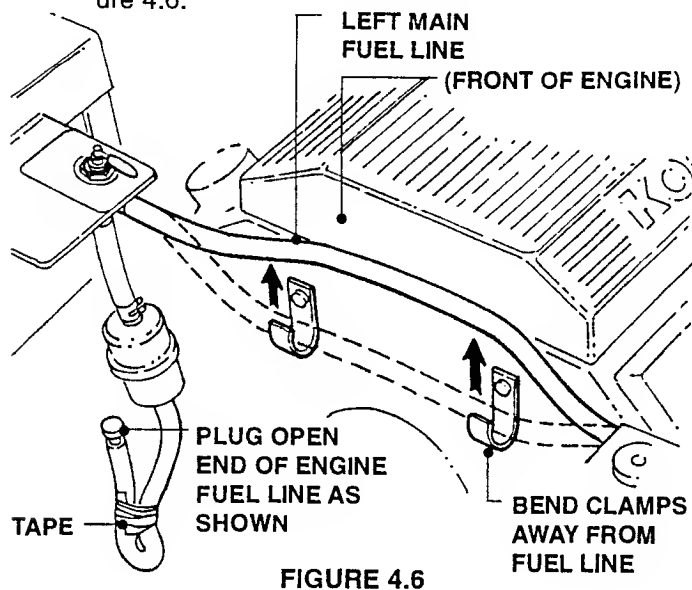

FIGURE 4.6
- G. Separate Left Main Fuel Line from front of engine by bending hose clamps away from line. See Figure 4.6.